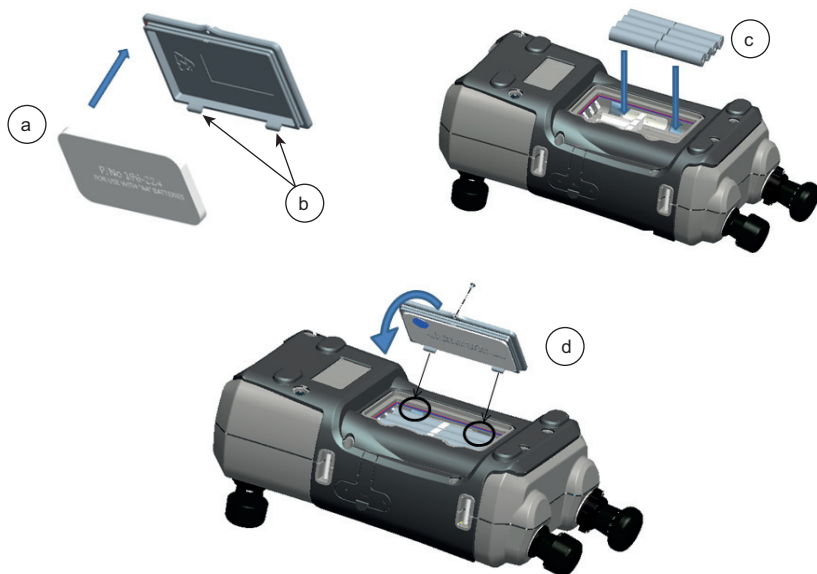

Figure 1-1: Fit Dry Cell Batteries
3. Replace the battery cover by pressing the lugs (b) inside the slots (d) and bring down the cover, securing by tightening the fixing screw. (See Figure 1-1).